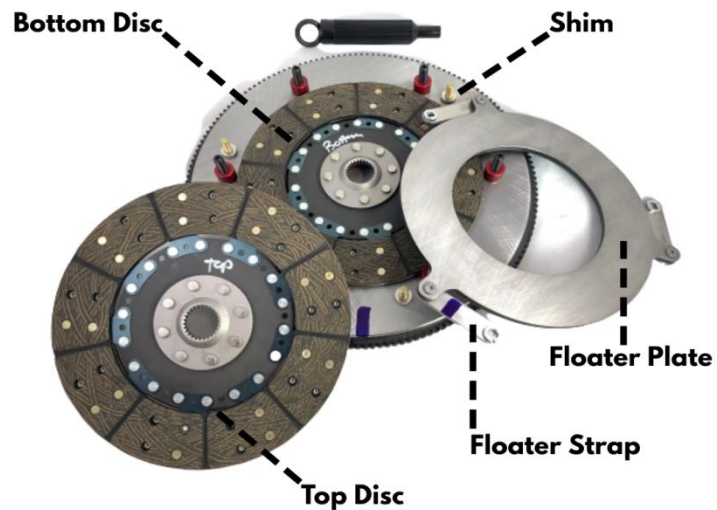

Figure 3
- 5) Remove the bottom disc. Also note “Flywheel Side” on the disc center. See Figure 3